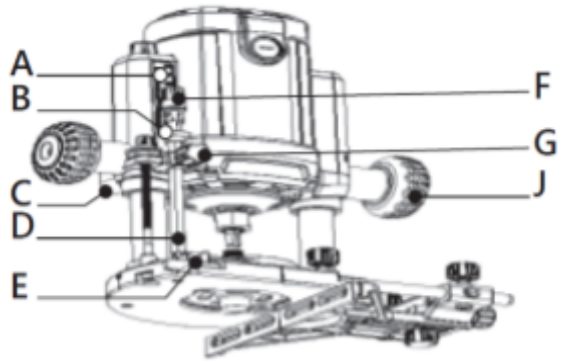

Figure 6
- A. To adjust the cutting head position, press the locking **lever C** (Fig. 6). Lower the cutting head to the required height by pressing down on the **ergonomic handles J** and lock its position with **lever C**.
The fine cutting adjustment **regulator F** (Fig. 6) at the end of the depth stop can be used to make a finer adjustment.